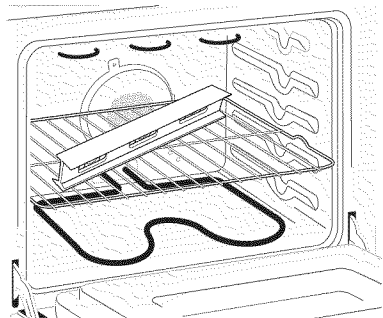
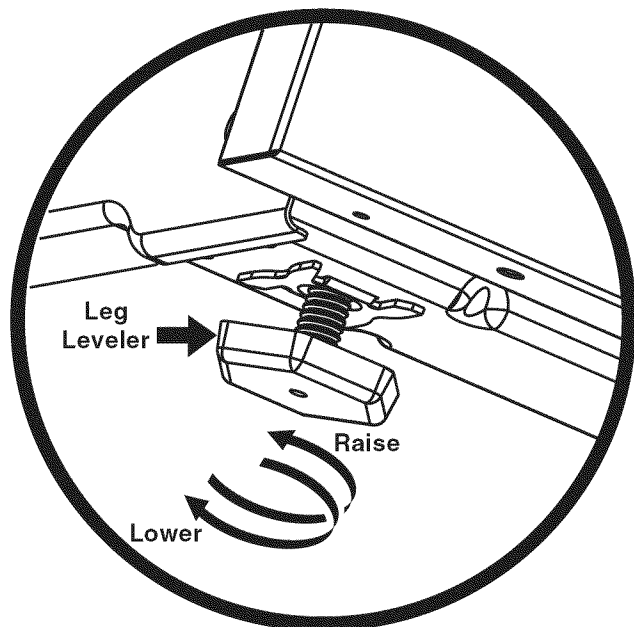

Figure 4
Figure 5
- B. Place a level on the rack (see Figure 4). Take 2 readings with the level placed diagonally in one direction and then the other. Level the range, if necessary, by adjusting the 4 leg levelers with a wrench (see Figure 5).